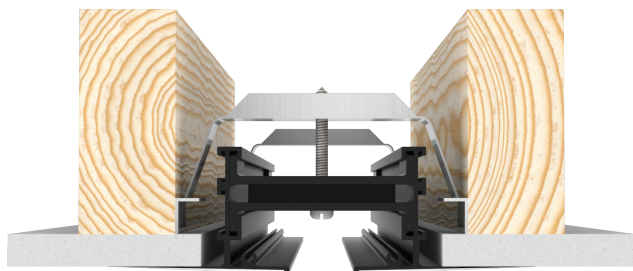

Figure 17 (Step 5A): Install Drywall – Exposed Face/Flange Border (A)
- A. Lastly, install sheetrock as shown in Figure 17. If one or both borders have a tape and spackle (“C”) border, see Figure 18.